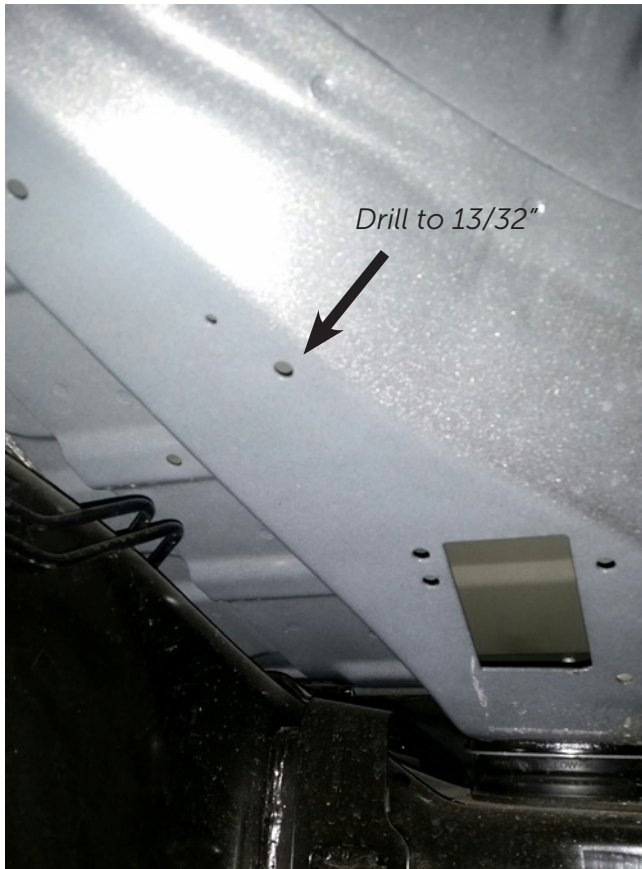

Figure 34: Driver-side (left) Passenger-side right)
- A. Drill existing holes in the fire wall, one on each side, to $13/32$ " and install nutsert using nutsert tool (fig. 34).